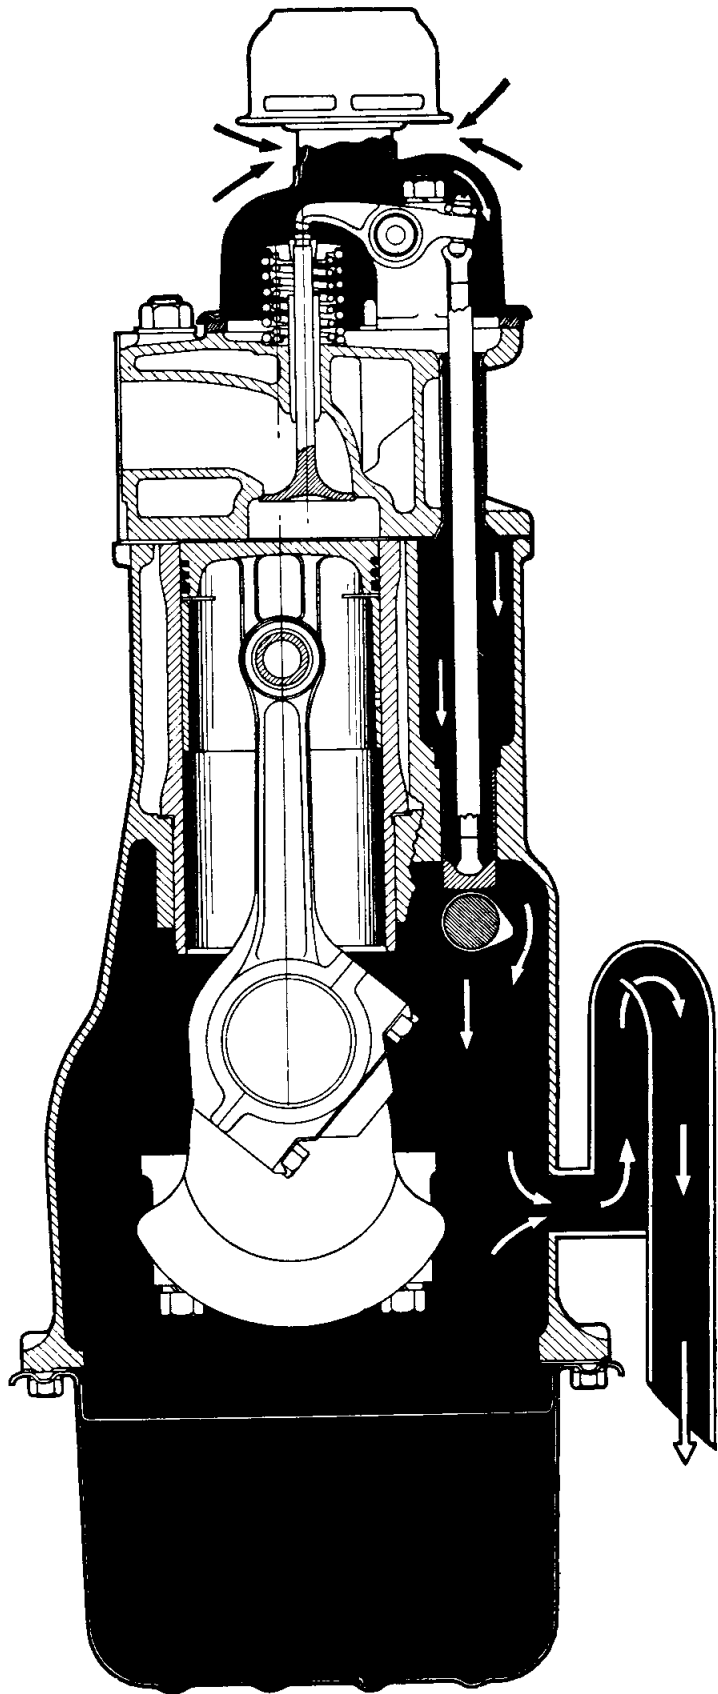

Fig. 11 A diagrammatic view of Crankcase Ventilation.
- (p) **Crankcase Ventilation** (Fig. 11) is effected by permitting air to be drawn out of the engine. To enable this ejection a large bore pipe in the form of an inverted "U" is fitted into the left-hand side of the cylinder block by means of an adapter welded to its end. The exposed end is cut away at an angle to provide a wider opening facing away from the slipstream. The passage of air (the slipstream) created by the cooling fan or the movement of the car causes a depression at the angle opening of the inverted "U" pipe and air is drawn out of the cylinder block. Fresh air is taken in through the rocker cover oil filler cap, circulating round the valve springs and rockers before passing down the push rod tubes into the cylinder block to replace air which is being drawn out. It is essential therefore that the filler cap is kept as clean as possible to allow free passage of air. This cap, which has a gauze